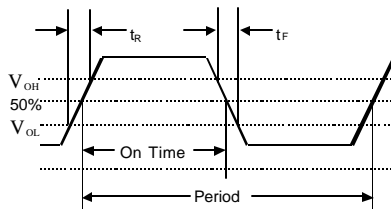
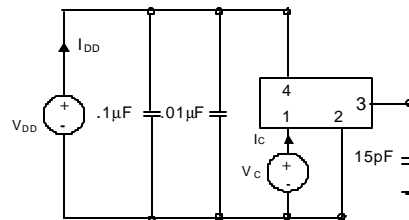

Figure 3. Output Waveform
Figure 4. Typical Output Test Conditions (25±5°C)
2. Figure 3 defines these parameters. Figure 4 illustrates the operating conditions under which these parameters are tested and specified. For $F_o > 90\text{MHz}$, rise and fall time is measured 20 to 80%.